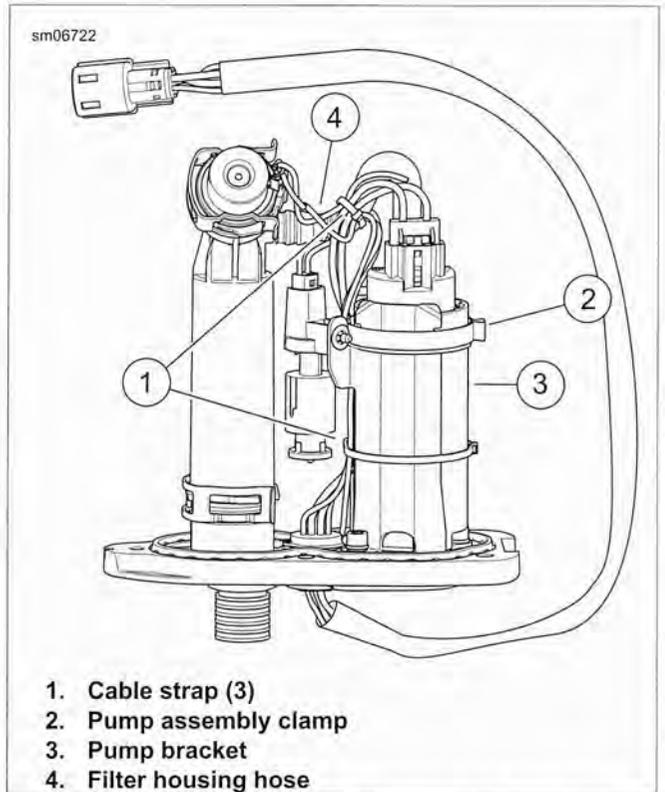

Figure 4-76. Fuel Pump Cable Straps and Pump Clamp
See Figure 4-76. When disassembling or assembling the fuel pump and sender assembly, refer to this figure for the relative positions of the wiring harness cable straps (1) and pump assembly clamp (2).
1. See Figure 4-76. Cut and discard cable strap (1) securing wiring harness to the filter housing hose (4).
1. See Figure 4-76. Make note of the location of any cable straps securing wiring harness to the fuel pump bracket (3). Cut and discard cable straps.
1. See Figure 4-76. Make note of the location of cable strap (1) securing low fuel level sensor connector to filter housing hose (4). Cut and discard cable strap.
1. See Figure 4-76. Make note of the location of cable straps (1) securing fuel pump/sender harness to fuel pump bracket (3) and filter housing hose (4). Cut and discard cable straps.
2. Secure fuel pump/sender harness grounding eyelet to pump bracket (5) using screw w/lock washer (6). Tighten to 19-36 **in-lbs** (2.1-4.1 Nm).
3. Plug low fuel level sensor connector (15) into fuel pump/sender harness. Plug fuel pump harness connector [86] (13) into fuel pump (2).
4. See Figure 4-76. Secure wiring harness to fuel pump bracket (3) and filter housing hose (4) with cable straps (1).
2. Plug the fuel pump/sender harness connector (15) into the low fuel level sensor (17).
3. See Figure 4-76. Secure low fuel level sensor connector and fuel pump/sender harness to filter housing hose (4) with cable strap (1).
2. Install low fuel level sensor assembly (17) onto pump bracket. Secure with push nut (16).
3. Install fuel pump assembly (2) with pump insulator (3) onto pump bracket. Secure with pump assembly clamp (7) (for relative position of clamp, see Figure 4-76.)
4. Install filter housing hose (11) on top of fuel pump. Secure with clamp (1).
5. Plug in fuel pump harness connector [86] (13).
6. See Figure 4-76. Secure fuel pump/sender harness to fuel pump bracket (3) with cable straps (1).
4. Install filter housing hose (11) on top of fuel pump (2). Secure with clamp (1).
5. Install ground clip (12) on top of filter housing.
6. See Figure 4-76. Secure fuel pump/sender harness to filter housing hose (4) with cable strap (1).